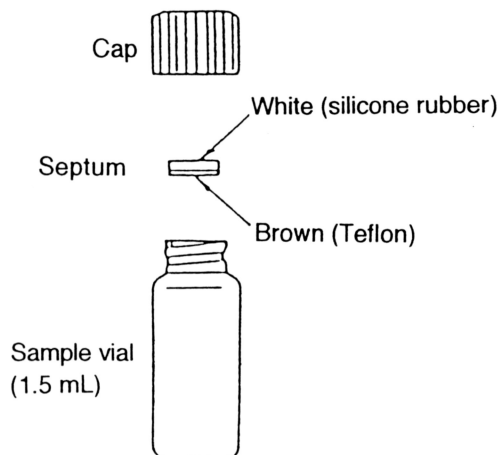

Figure 1-6 Components of the Sample Vial
2. Sample Vial Place the septum in the sample vials as shown in Figure 1-6.